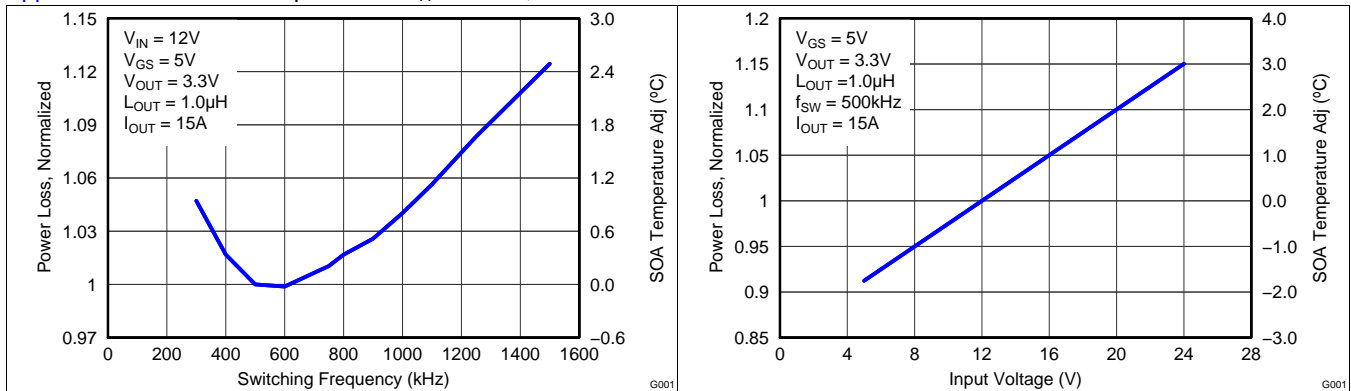

Figure 6. Normalized Power Loss vs Switching Frequency
- Normalized power loss for switching frequency ≈ 1.04 (Figure 6)
- SOA adjustment for switching frequency ≈ 0.8°C (Figure 6)